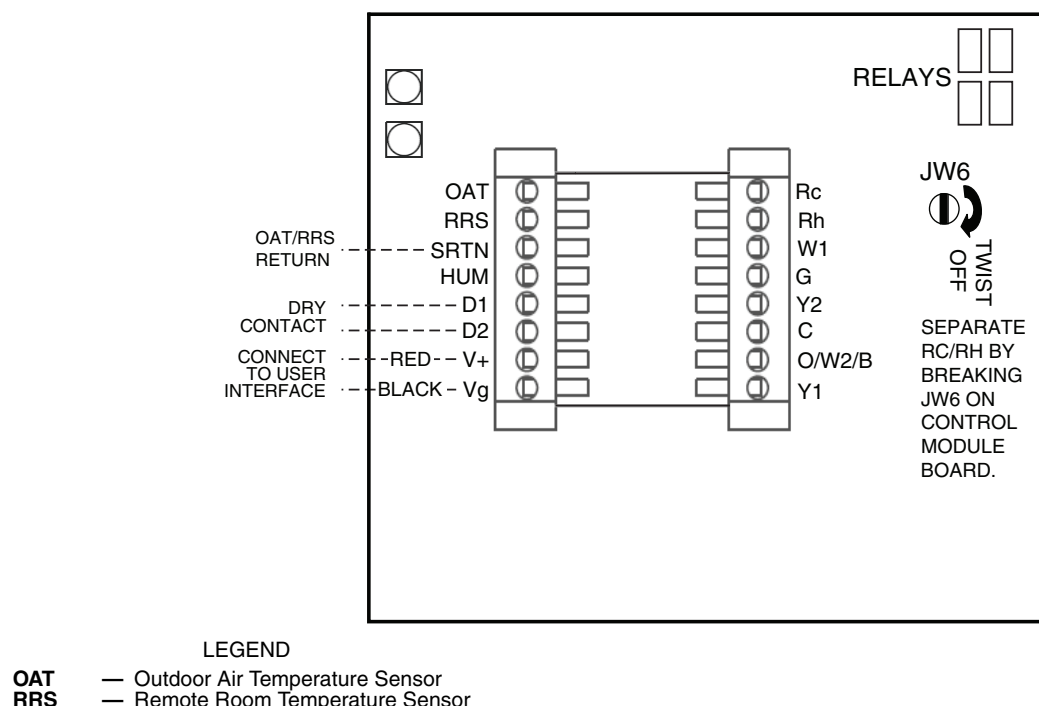

Fig. 10 — Control Module Connector Block Terminals
16. Match and connect equipment wires to proper terminals of each connector block, being careful not to over tighten the screws. Correct polarity must be observed when connecting the two wires from the equipment control module to the display module mounting base. If wires are connected incorrectly, the display module will not operate. See Fig. 10.
9. Connect equipment wiring to the terminals on the equipment control module, being careful not to over-tighten the screws. See Fig. 10.